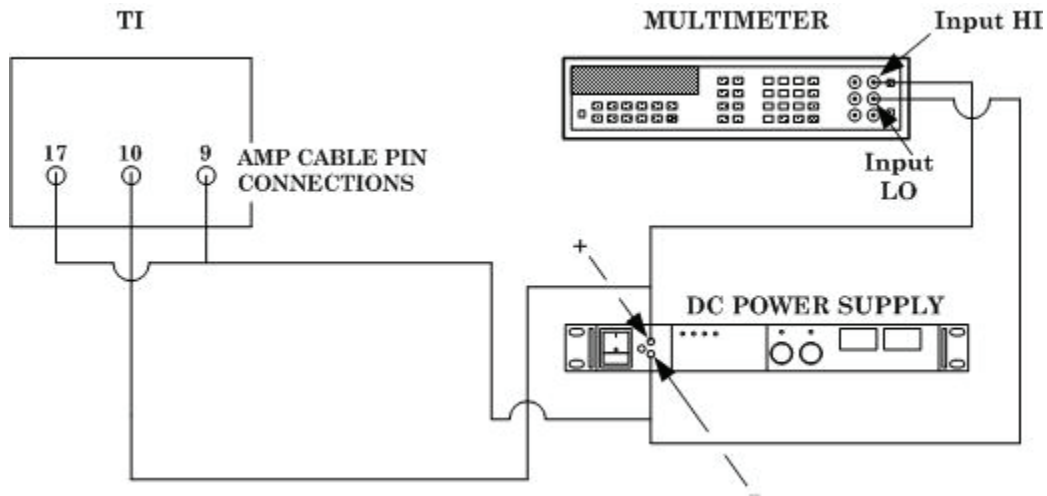

Figure 3. Monitor (LBS) and (VOLTS) equipment setup.
- (1) Position TI controls as listed in (a) through (d) below.
- (2) Disconnect DC power supply and reconnect 9 V battery in case of TI.
- (3) Connect equipment as shown in fig. 3.